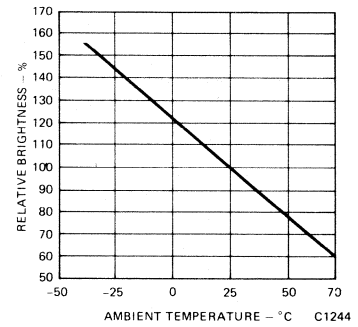

Fig. 3. Luminous Intensity vs. Temperature
2. The curve in Fig. 3 is normalized to the brightness at  $25^{\circ}\text{C}$  to indicate the relative efficiency over the operating temperature range.